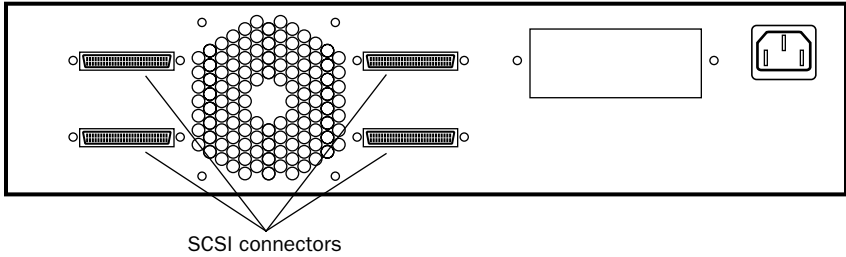

Figure 6. MediaDock II chassis SCSI connectors
- 3 Connect the other end of the SCSI cable to the appropriate SCSI connector on the MediaDock II chassis (see Figure 6 above).